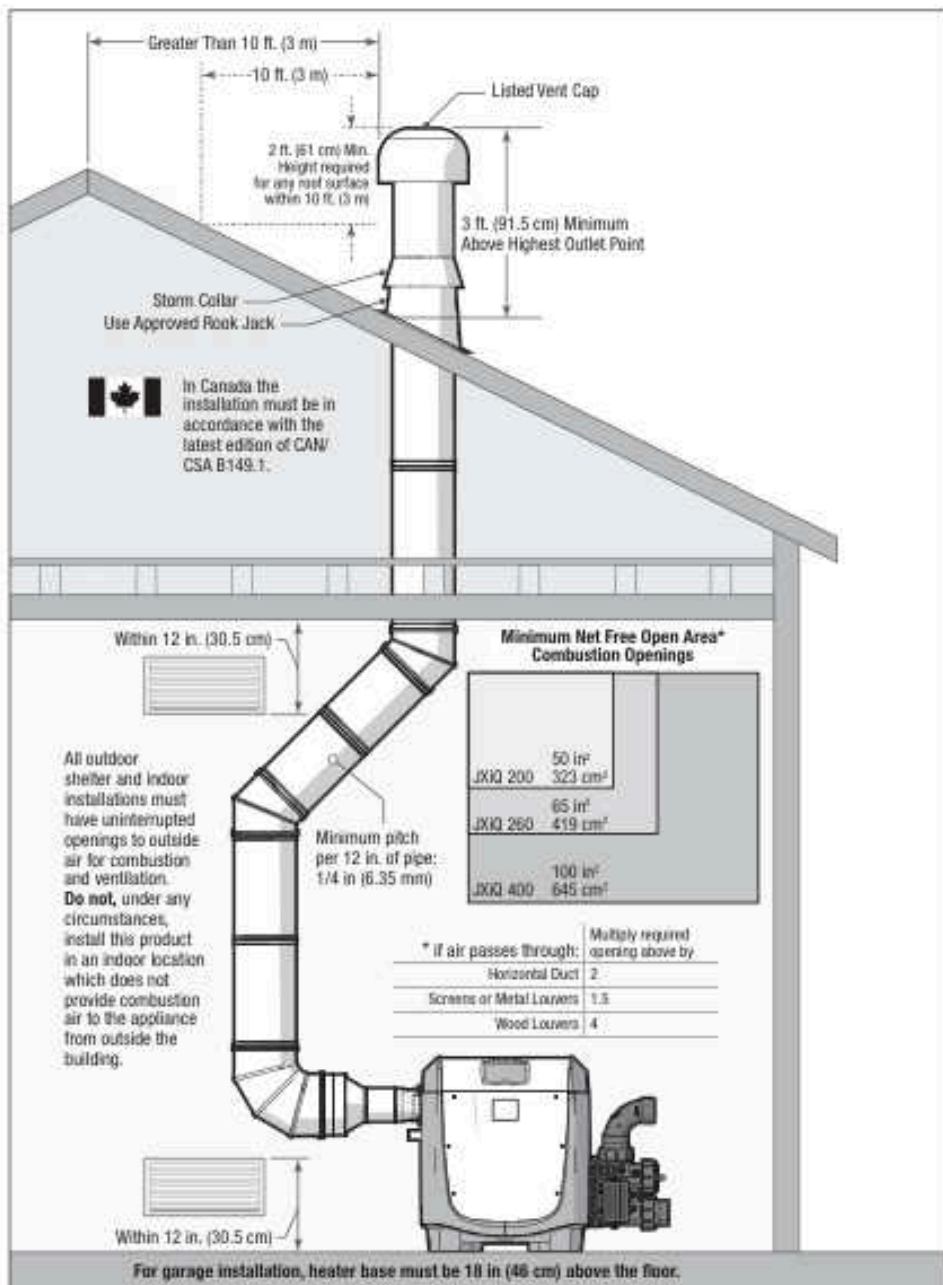

Figure 4. Indoor and Outdoor Shelter Installation
When combustion air is supplied directly through an outside wall, each opening should have a minimum free area of 1 square inch per 4,000 BTU/h (1.2 kW) input of the total input rating of all appliances in the enclosed area. If combustion air must pass through horizontal ducts, each opening should have a minimum free area of 1 square inch per 2,000 BTU/h (1.2 kW) input of the total input rating of all appliances in the enclosed area. Details can be found in Figure 4.
The "Minimum Net Free Open Area" information from Figure 4 is not applicable in installations where exhaust fans or blowers of any type are used. Any equipment which exhausts air from the room where the heater is installed can deplete the combustion air supply which could lead to poor combustion, decreased heater efficiency and reliability and increased emissions. This could cause flue products to accumulate in the room. Additional air must be supplied to compensate for such exhaust. Consult a professional engineer to ensure that installations where exhaust fans or blowers are used are designed and installed in accordance with all applicable local and national installation codes.
- Horizontal runs must be sloped upwards away from the heater to a vent terminal at a minimum of 1/4 in per horizontal foot (2 cm/m). See Figure 4.
Category I: Appliance must be vented vertically and terminate at the roof. Vent must terminate at least 2 feet (610 mm) above any objects within 10 feet (3.05 m). Termination must pass through a properly installed and approved roof jack, a properly sized storm collar and an listed vent cap. See Figure 4.